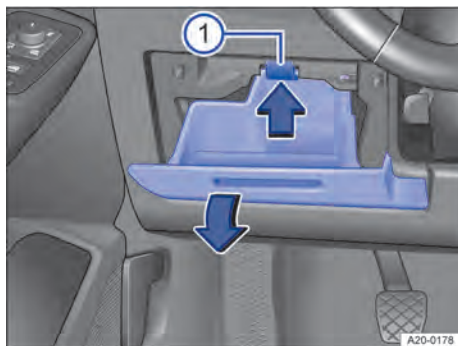

Fig. 178 Fuse box cover in the dash panel: left-hand drive vehicle, on the left-hand side of the steering wheel.
- ① Lug.
1. Open the storage compartment and empty it if necessary → Fig. 178.
2. Push the retaining lug upwards in the direction of the arrow and at the same time open the stowage compartment further and remove in the direction of the arrow until you can access the fuse carrier → Fig. 178 ①.